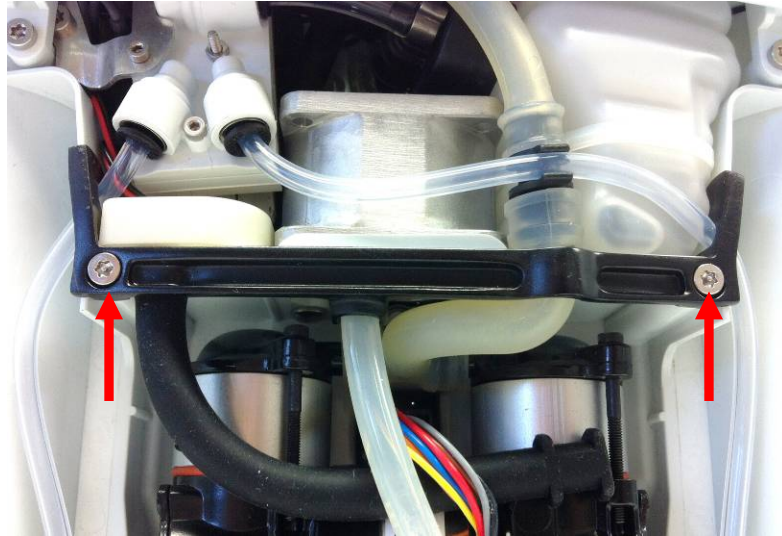

Figure 3: Tube bracket screws
1. Locate and remove the two screws that connect the tube bracket to the chassis (Figure 3).
1. Install the new tube bracket, making sure that all tubes are in their respected grooves on the bracket (as seen in Figure 3) before replacing the two screws. Tighten screws to 6 in-lbs.